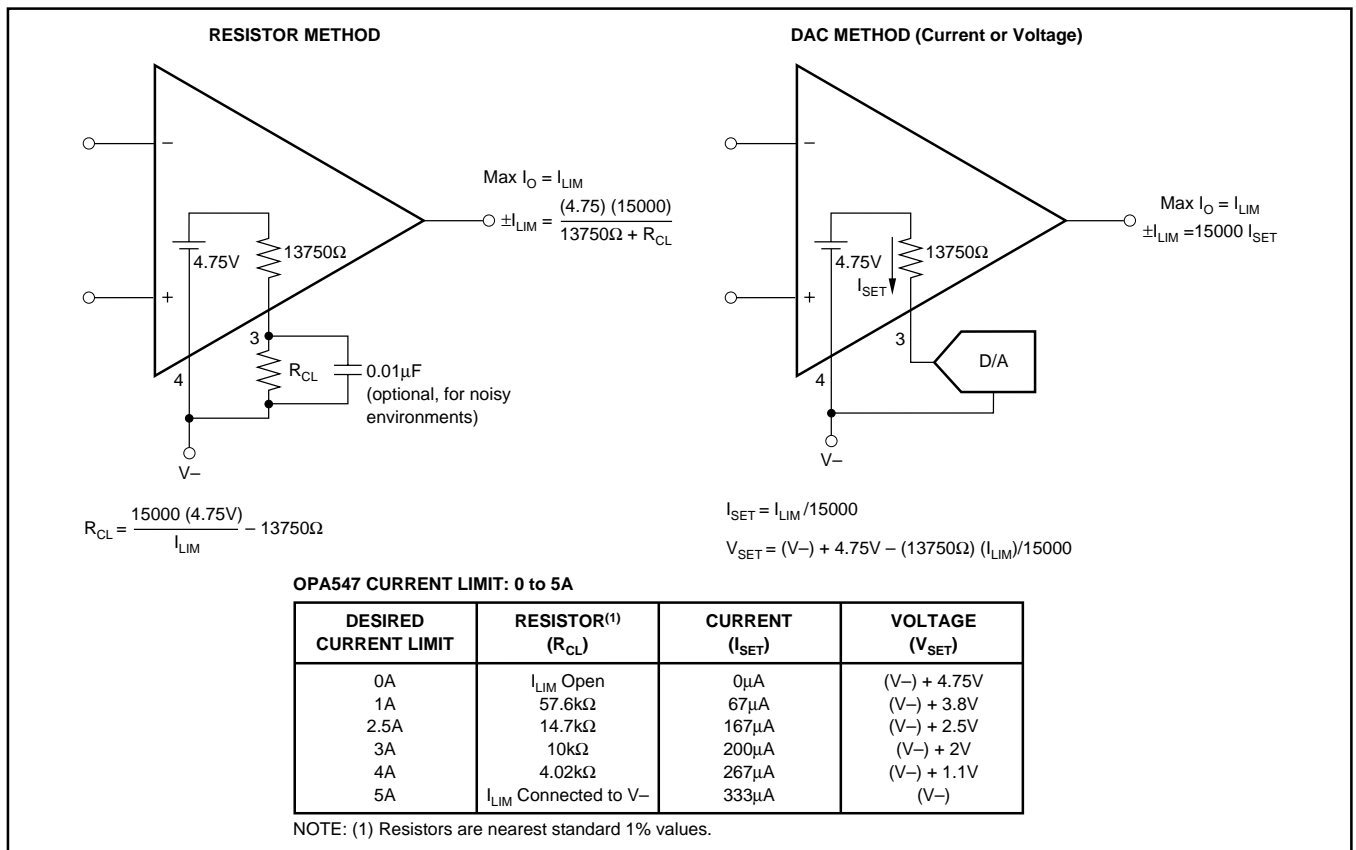

FIGURE 3. Adjustable Current Limit.
See Figure 3 for a simplified schematic of the internal circuitry used to set the current limit. Leaving the I_{LIM} pin open programs the output current to zero, while connecting I_{LIM} directly to V- programs the maximum output current limit, typically 5A.
NOTES: (1) Works well for $G < 10$. Input offset causes output current to flow between amplifiers with $G > 10$. Gains (resistor ratios) of the two amplifiers should be carefully matched to ensure equal current sharing. (2) As configured (I_{LIM} connected to V^-) output current limit is set to 10A (peak). Each amplifier is limited to 5A (peak). Other current limit values may be obtained, see Figure 3, "Adjustable Current Limit".